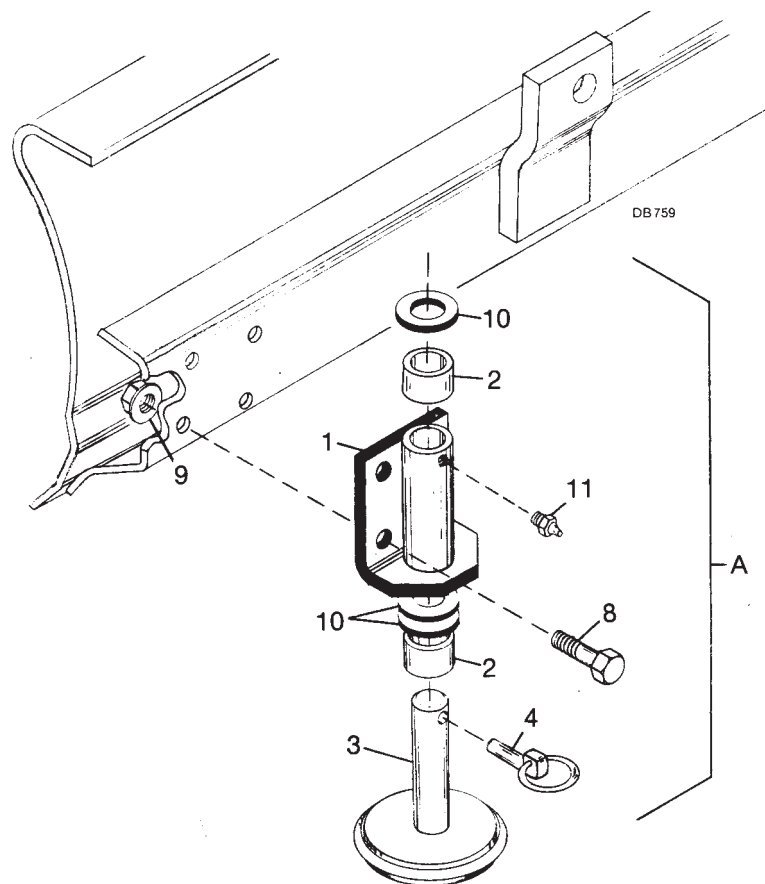

Figure 31. Skid Shoe Installation
1. Attach the bracket (1) to the blade with four cap screws (8) and lock nuts (9) as shown in Figure 31. Torque hardware to 85 lbs.-ft (115 N-m).
2. Insert skid assembly (3) into tube of bracket (1) and secure with klik pin (4).
3. The cutting edge height is controlled by adjusting the skid shoes with a combination of spacers (2) and washers (10).
4. To raise the cutting edge, place spacer(s) (2) and washer(s) (10) under skid shoe bracket (1).